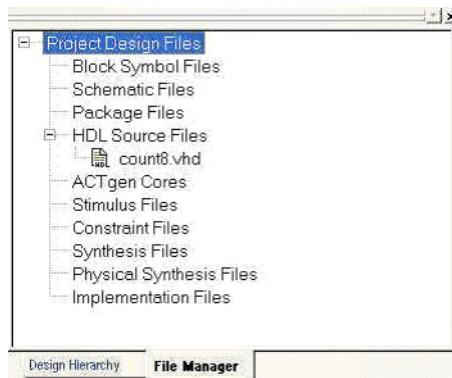

Figure 7-10 • Design Hierarchy and File Manager Tabs
4. Check the HDL in the file before you continue. In the Design Hierarchy or File Manager tab (Figure 7-10), right-click **count8.vhd** and select **Check HDL file**. This checks the syntax of the **count8.vhd** file. Before moving to the next section, modify the code if you find any errors.